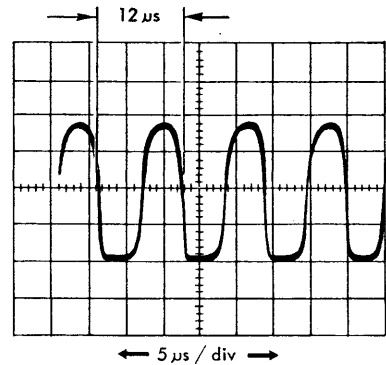

Figure 17. Process Drum Clock Oscillator (1J4-3)
### Process Drum Clock Oscillator (Figure 17)
2. Set the scope to internal triggering mode and observe the signal at 1J4 pin 3 (1.01.00). A cycle should be 12  $\mu$ s long (See Figure 17).